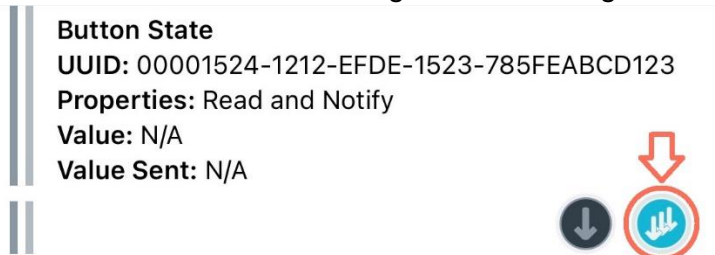

Figure 21: Enable notifications for button presses
6. In the Button State service, tap the triple-down-arrow icon to enable Bluetooth LE notifications. The color of the icon changes, as shown Figure 21.